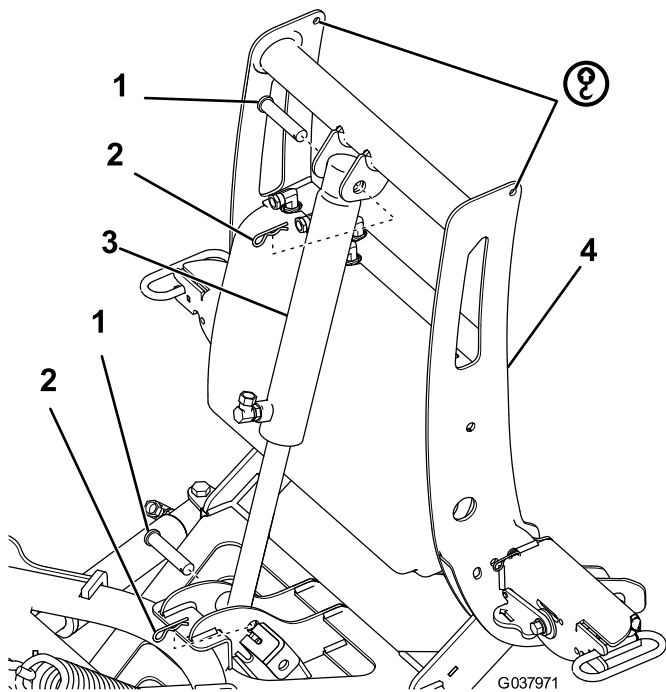

Figure 5
8. Secure the rod end of the lift cylinder to the push-frame assembly using a clevis pin and hairpin cotter (Figure 5).
9. Secure the free end of the lift cylinder to the coupler tower using a clevis pin and hairpin cotter (Figure 5).